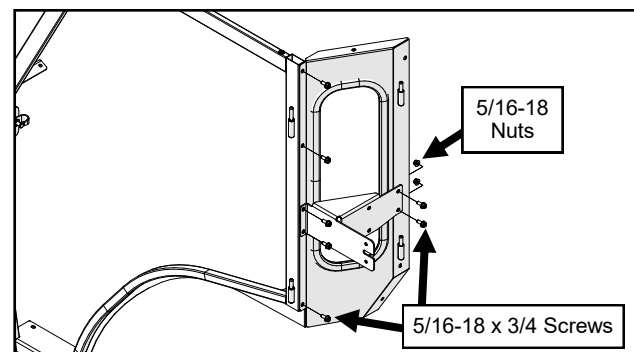

Fig. 5.2 (Pre-Assemble Side Frame)
- 5.2** Pre-assemble the left rear leg and left ROPS mount to the left side frame. See Figure 5.2.